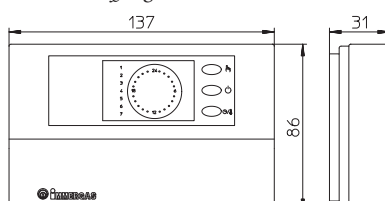

Fig. 1-3
- On/Off digital timer thermostat (Fig. 1-3). The timer thermostat allows: